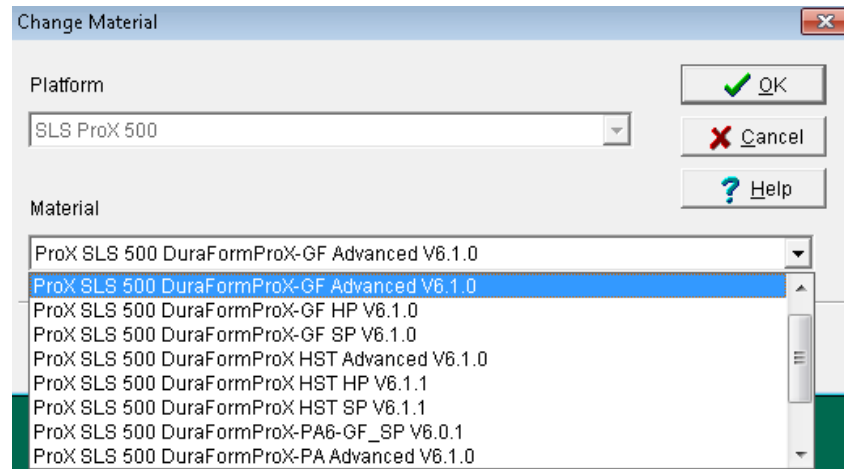

Figure 12
5. Launch Build Setup and in the main menu, select “File” >> “Change Material”. You should be able to see the following material configuration list. (Figure 12).